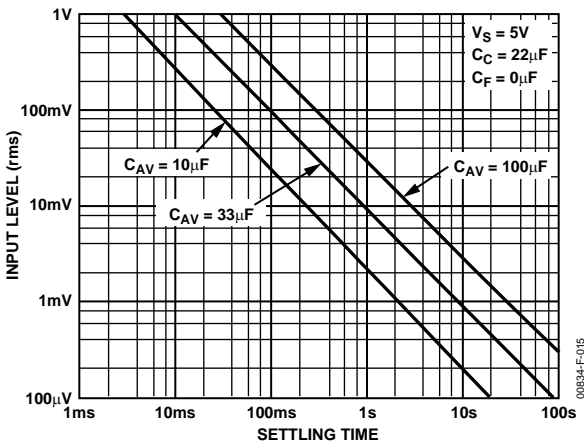

Figure 16. Settling Time vs. RMS Input Level for Various Values of  $C_{AV}$
**CALCULATING SETTling TIME USING FIGURE 16**
Figure 16 may be used to closely approximate the time required for the AD736 to settle when its input level is reduced in amplitude. The net time required for the rms converter to settle is the difference between two times extracted from the graph—the initial time minus the final settling time. As an example, consider the following conditions: a 33  $\mu\text{F}$  averaging capacitor, a 100 mV initial rms input level, and a final (reduced) 1 mV input level. From Figure 16, the initial settling time (where the 100 mV line intersects the 33  $\mu\text{F}$  line) is approximately 80 ms.